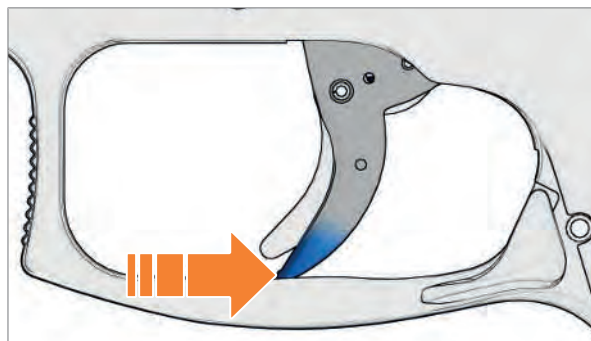

Fig. 17: Push trigger towards the rear
1. Push trigger towards the rear, but do not actuate the trigger safety when doing so (Fig. 17).